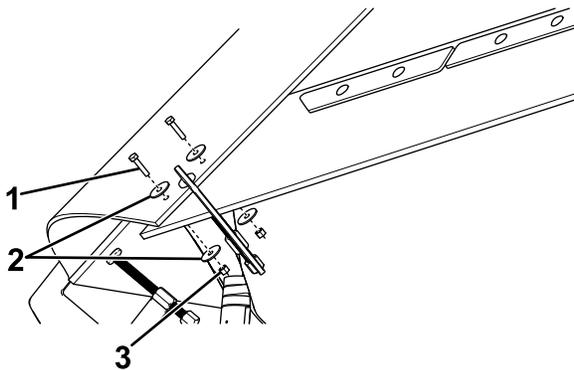

**Figure 6**
- Clamp the center belting in place (Figure 6) after aligning it as follows: